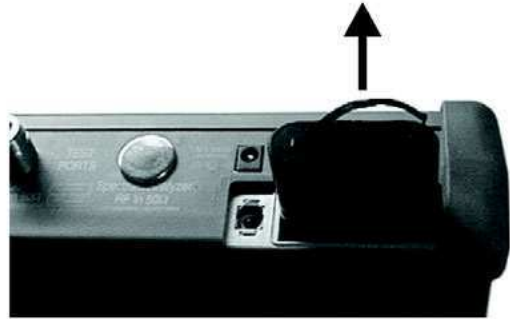

Figure 3-1. Removing the Battery Access Door
1. With the Site Master standing upright on a stable surface, locate the battery access door (see Figure 3-1).
4. Grasp the battery lanyard and pull the battery straight up and out of the unit, as illustrated in Figure 3-1 above.